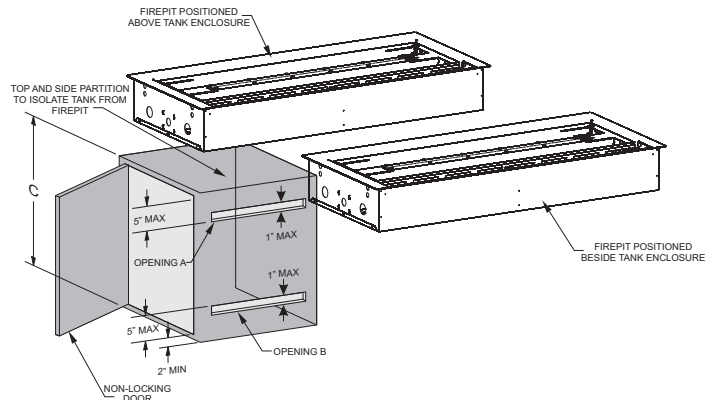

Figure 19
5. If installation includes LP tank storage under the firepit, use the optional BRB Vent Kit or refer to the LP tank storage requirements on pages 15 and 16. See Figure 19.